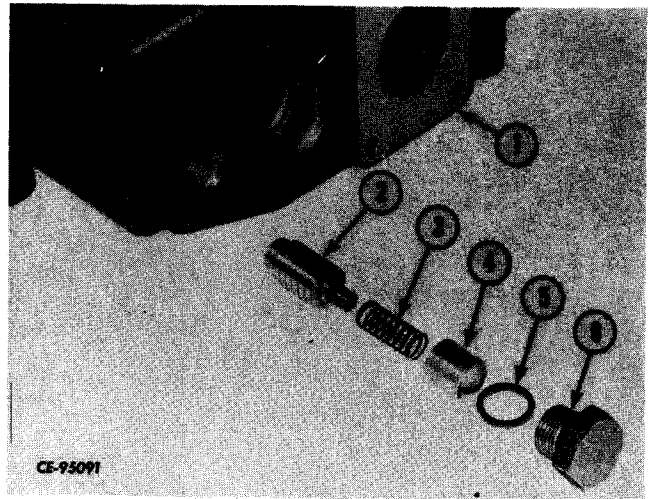

Figure 11-46
Remove cap (6, Fig. 11-46), seal ring (5), plug (4) and spring (3). Slide relief valve (2) from body (1). Repeat procedure for opposite side.
Slide relief valve (2, Fig. 11-46) into bore of valve housing (1) after lubricating with hydraulic fluid. Install spring (3) over stem of valve (2). Install plug (4). Lubricate new seal ring (5) and install on cap (6). Install cap. Repeat procedure for other side.